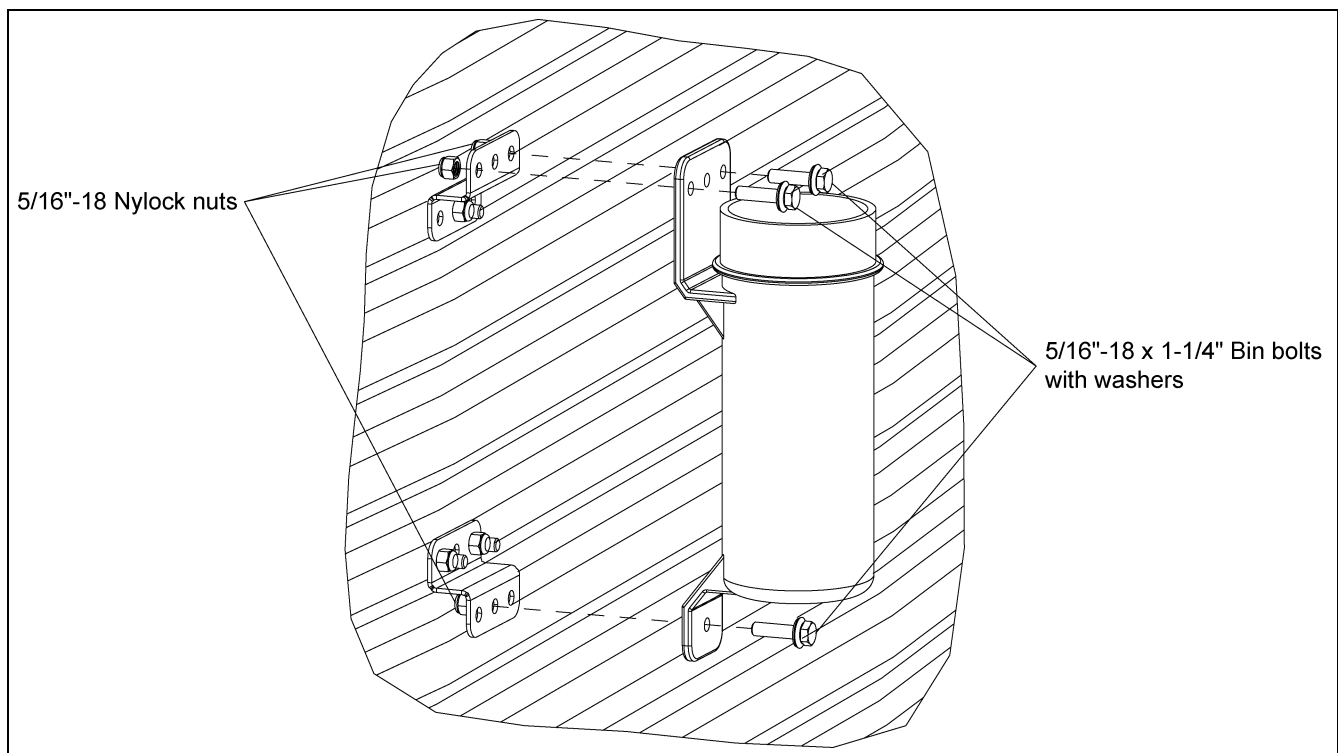

Figure 3C
8. Attach the canister to the canister bracket with three (3) 5/16"-18 x 1-1/4" bolts and nylock nuts. (See Figure 3C.)